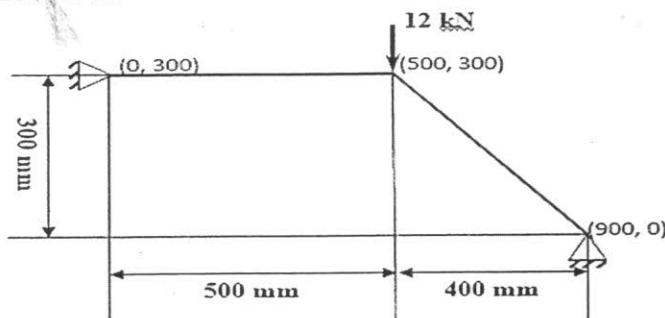

Fig 4b
- b) For the two bar truss element shown in Fig 4b, determine the nodal displacements, stress in each elements and the reaction at support. Take $A = 200 \text{ mm}^2$, $E = 200 \text{ GPa}$.